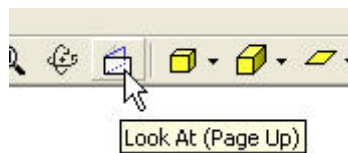

Figure 20
17. Choose **Sketch** from the menu bar and select this new work plane to be the new sketch plane. Once the sketch plane is selected choose the **Look At** command, Figure 20, and click on the work plane to view the part from the top.